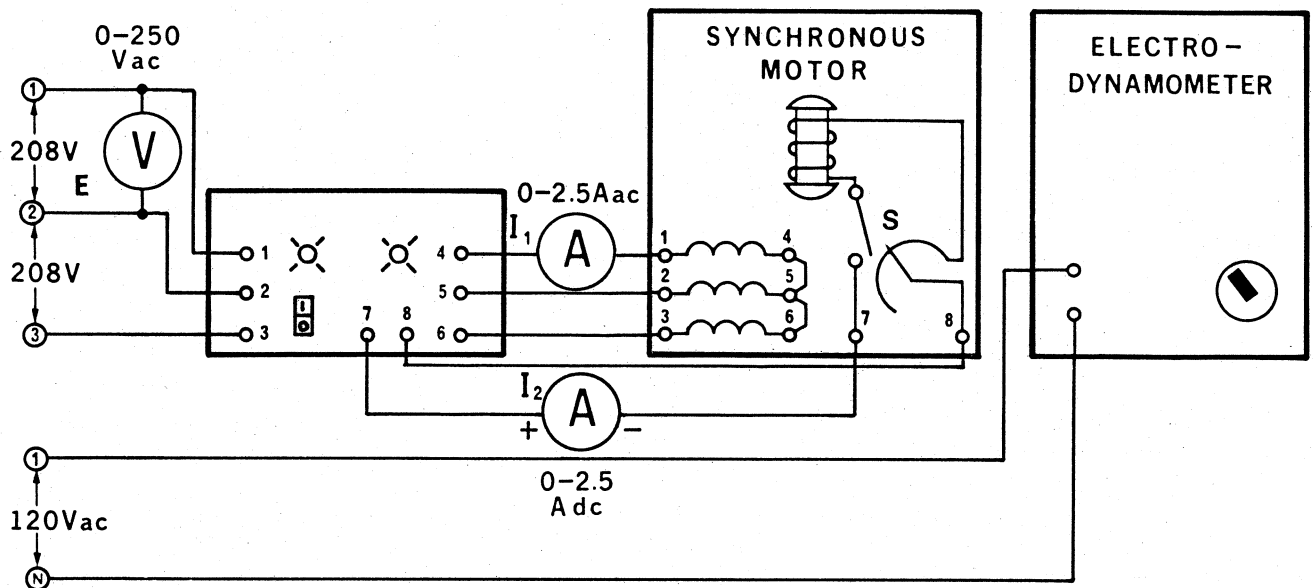

Figure 14-3.
8. a. Using your Synchronous Motor Starter, Three-Phase Synchronous Motor/Generator, Electrodynamometer, Power Supply, AC Ammeter, AC Voltmeter and DC Voltmeter/Ammeter, connect the circuit shown in Figure 14-3. Couple the motor to the electro-dynamometer with the timing belt.